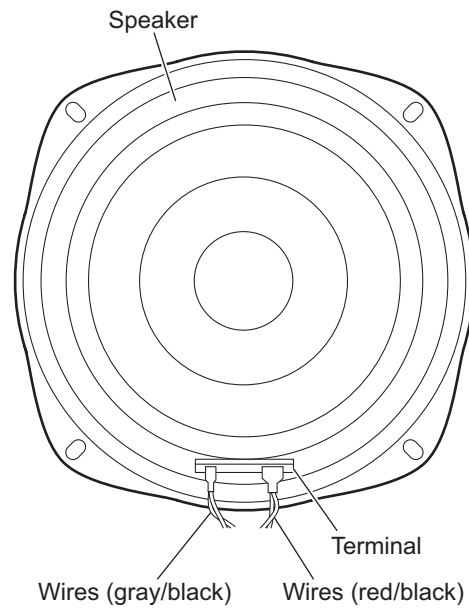

Fig.5
- Take out the speaker from the speaker main body and disconnect the wires (red/black, gray/black) from the terminal of the speaker. (See Fig.5.)